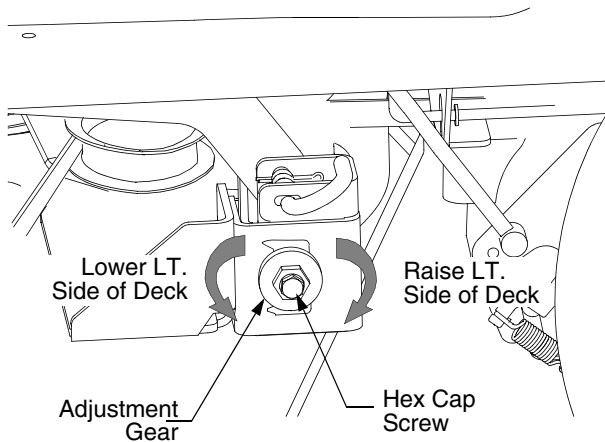

Figure 30
- Loosen, but do not remove, the hex cap screw on the left deck hanger bracket. Refer to Figure 30.
- Level the deck by using a wrench to turn the adjustment gear (found immediately behind the hex cap screw just loosened) clockwise to raise the left side of the deck, or counterclockwise to lower the left side of the deck. See Figure 30.